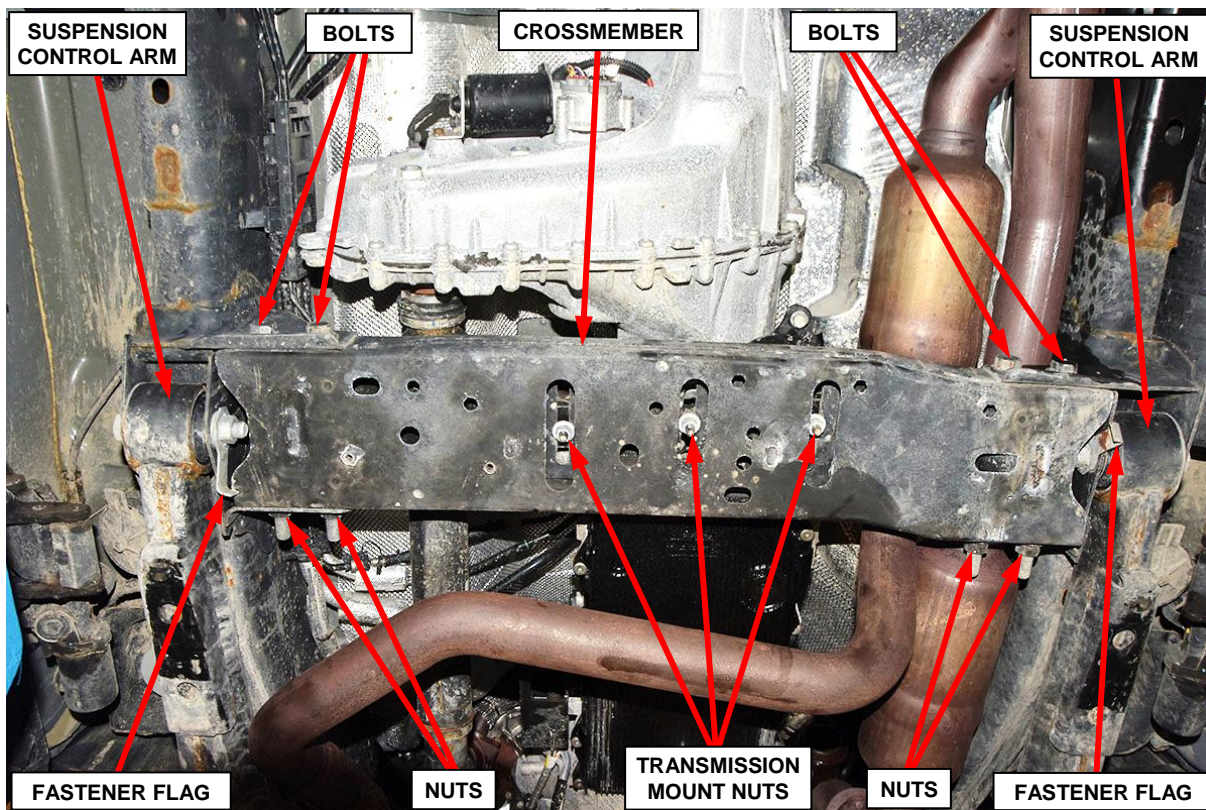

Figure 8 – Crossmember
15. Remove and **SAVE** the three nuts securing the transmission mount to the crossmember (Figure 8).
17. Remove and **SAVE** the nuts and bolts from the crossmember then remove and **SAVE** the crossmember (Figure 8).
31. Position the crossmember to the vehicle (Figure 8).
32. Install the crossmember bolts and nuts. Tighten to 240 N·m (177 ft. lbs.) (Figure 8).
33. Lower the transmission and install the three nuts securing the transmission mount to the crossmember. Tighten the nuts to 61 N·m (45 ft. lbs) (Figure 8).